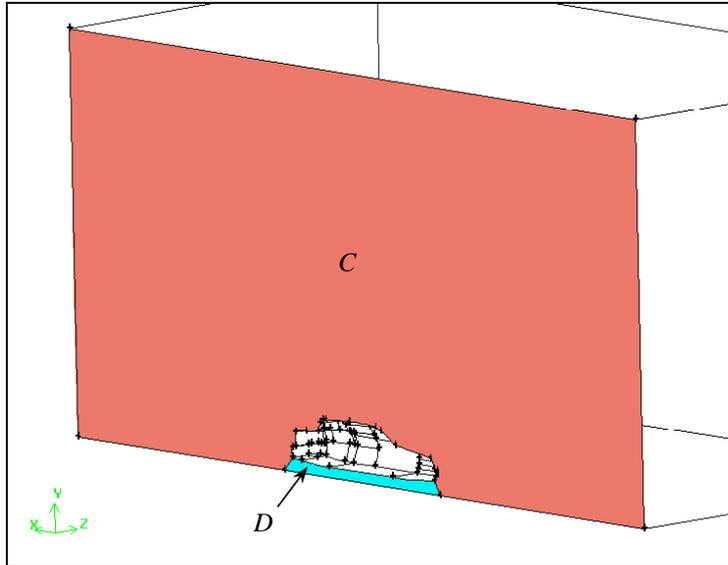

Figure 6-23: Two faces created on the symmetry plane of the brick
- iii. Select (pick) the two faces you created on the symmetry plane of the brick (faces *C* and *D* in Figure 6-23) and click **Apply** to accept the selection.